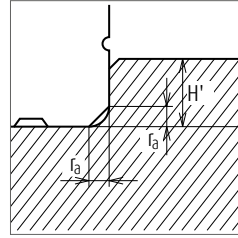

Fig. 10 Shoulder for the rail datum face
(1) Shoulder height of the mounting surface of the machine base and corner radius r
- › **Figs. 10 and 11**, show shoulder height of the mounting surface of the machine base and the size of corner radius. These figures are relevant when the linear guide is pressed to the shoulder of the machine base or table (the raised section from where the mounting surface begins), and horizontally secured to it. Recommended sizes are shown in the clause of "Shoulder height and corner radius r " of each series introduction.
(2) Tightening torque of the bolt